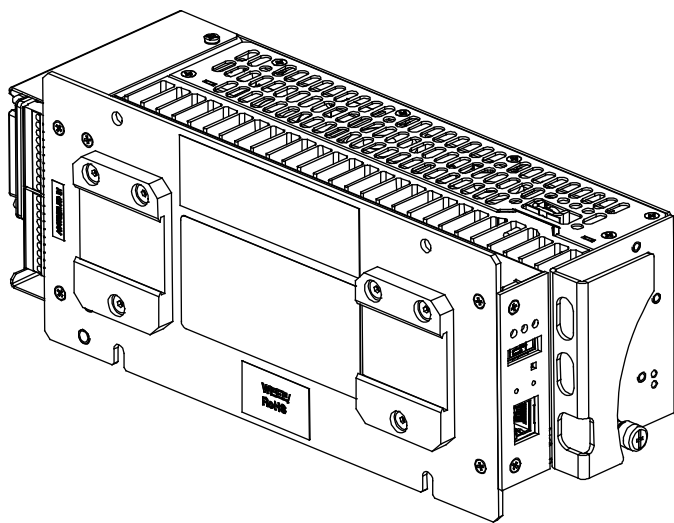

Figure 4–DIN rail mounting option
1. Remove the 2 DIN rail mounting clips (3x screws per clip shown in Figure 4).